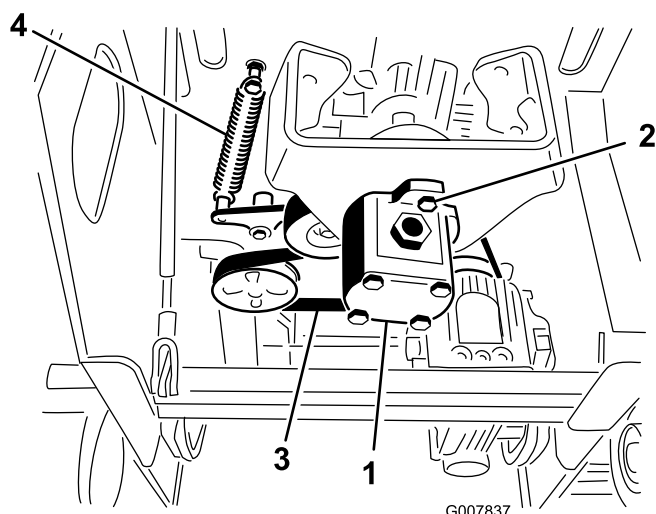

Figure 49
5. Loosen the two pump bolts (Figure 49).
6. Twist the pump counter clockwise and allow it to drop down away from the pulley (Figure 49). Ensure that the spider coupler drops down with the pump.
7. Using a spring puller (contact your Authorized Service Dealer) or stiff metal hook, pull the end of the idler pulley spring off of the spring bolt to release tension on the belt (Figure 49).